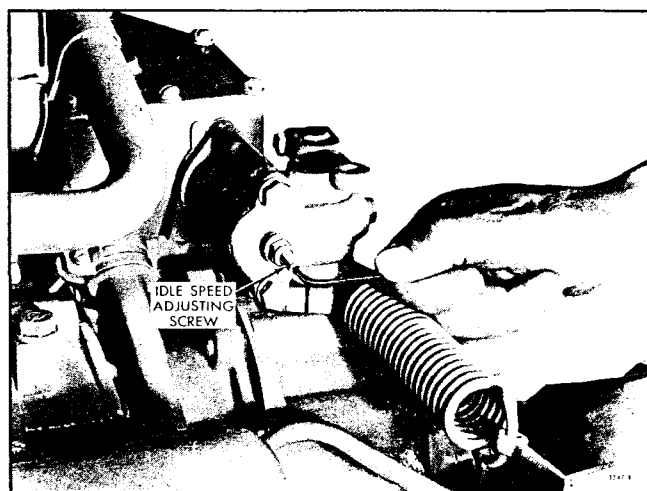

Fig. 5 - Adjusting Idle Speed
2. With the engine operating, loosen the lock nut and turn the idle speed adjusting screw (Fig. 5) in or out until the engine idles at the recommended idle speed. The recommended idle speed is 550 rpm, but may vary with special engine applications.